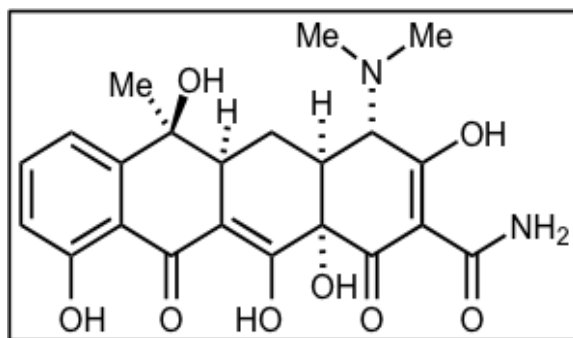

Figure 15 : Tetracycline structure.
As their name suggests, tetracyclines (TC) have a common chemical structure composed of four fused hexacyclic rings in a linear arrangement (figure 15).
- Members of this class have four (4) hydrocarbon rings and are known by their name with the suffix "-cycline".